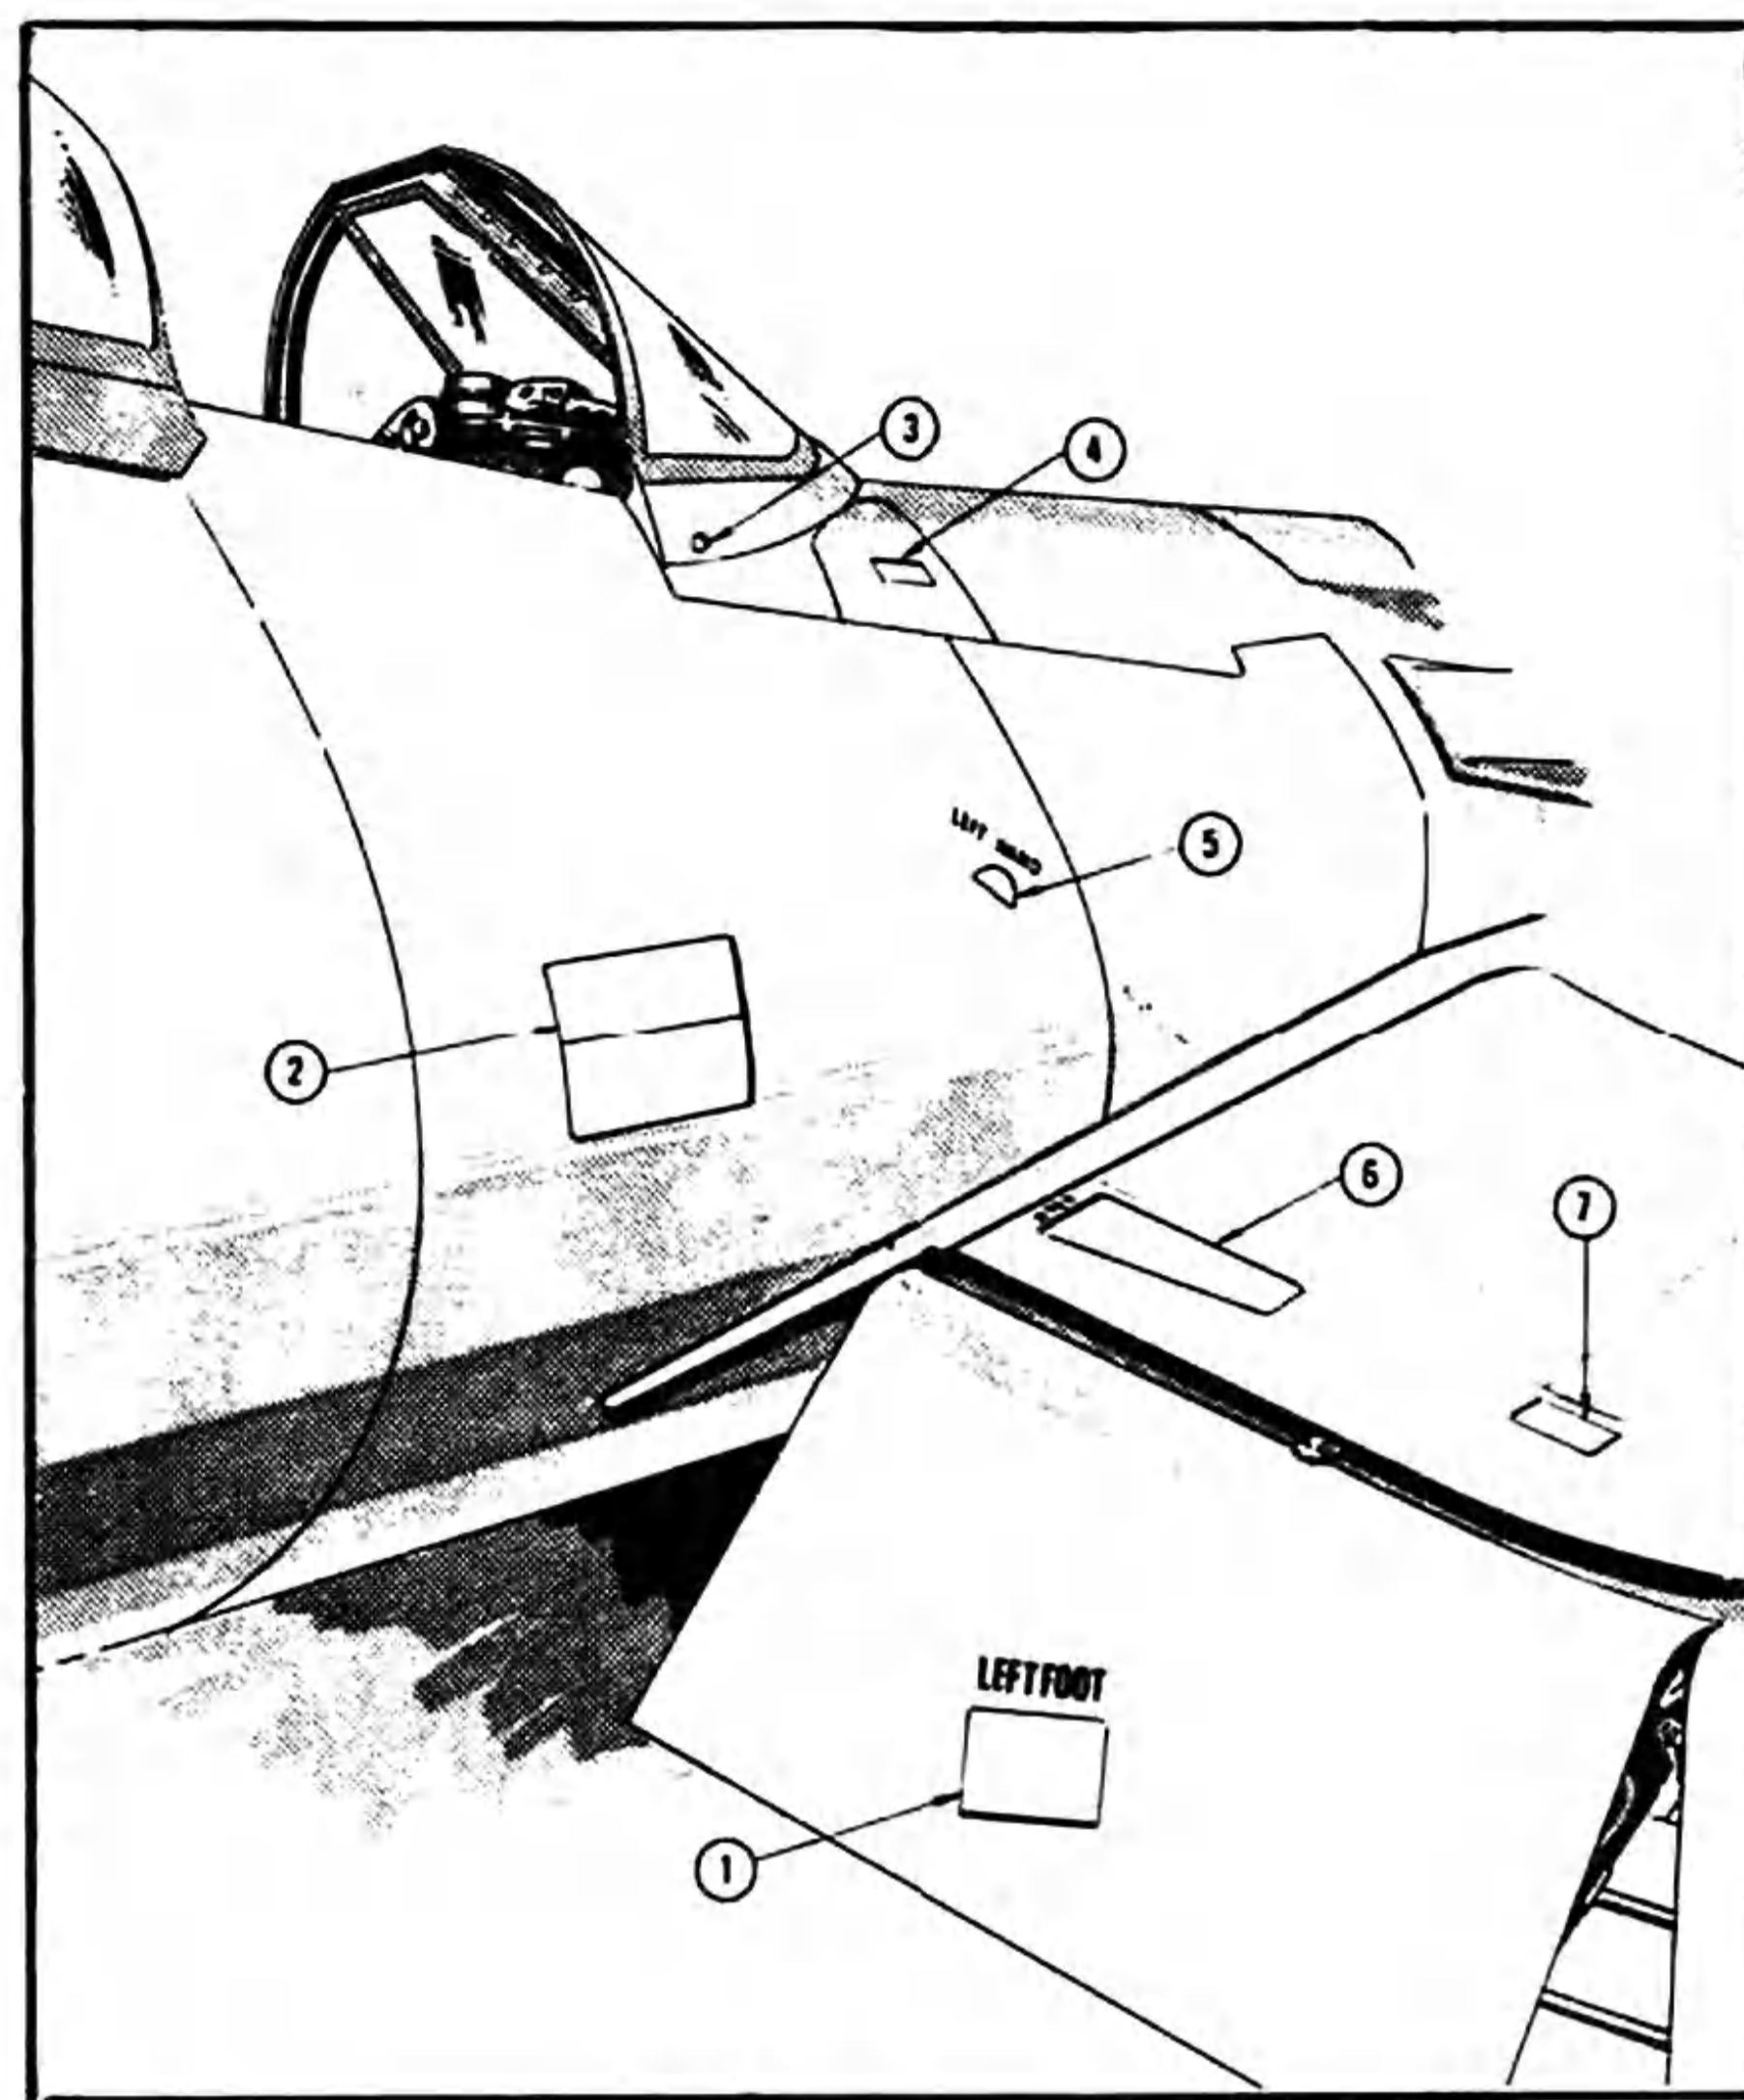

Figure 19 — Access to Cockpit
c. ACCESS TO THE COCKPIT. — Enter the cockpit from the right-hand side, using the steps and handholds shown in figure 19.
(1) Lower the wing flaps by means of the lever in the right-hand fuselage step, (see 2, figure 19). Opening this step exposes a hand lever which is linked mechanically to the flap control lever in the cockpit. As this lever is pulled it moves the flap control to its 50 degree (full down) position. If there is pressure in the hydraulic system, the flaps will lower; if there is no pressure, the pilot can push the flap down.
(2) Place the left foot in the flap step, the right hand in the wing handhold, and the left hand in the lower fuselage handhold.
(3) Step up onto the wing, right foot in the wing step and right hand in the upper fuselage handhold.
(4) Place the left foot in the fuselage step.
(5) Press the canopy release button (see 3, figure 19) and slide the canopy back.